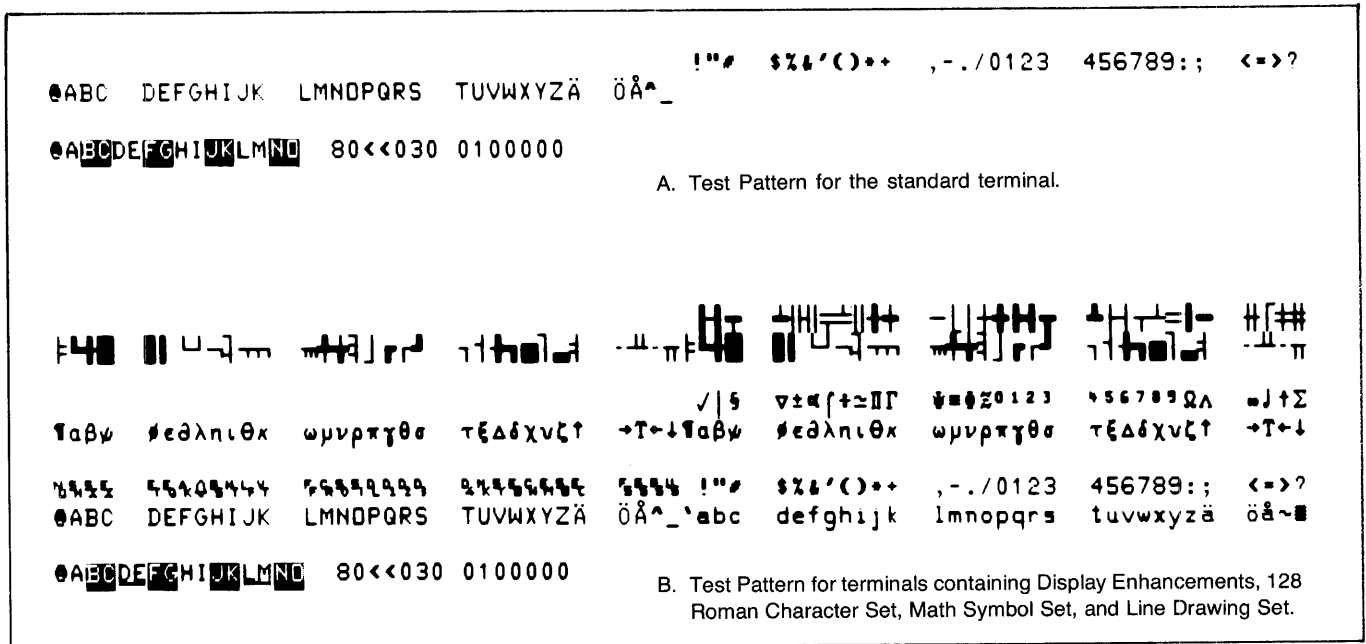

Figure 7-39. Basic Self-Test Patterns (HP 2645S)
- b. Basic self-test patterns for the HP 2645S are given in figure 7-39.